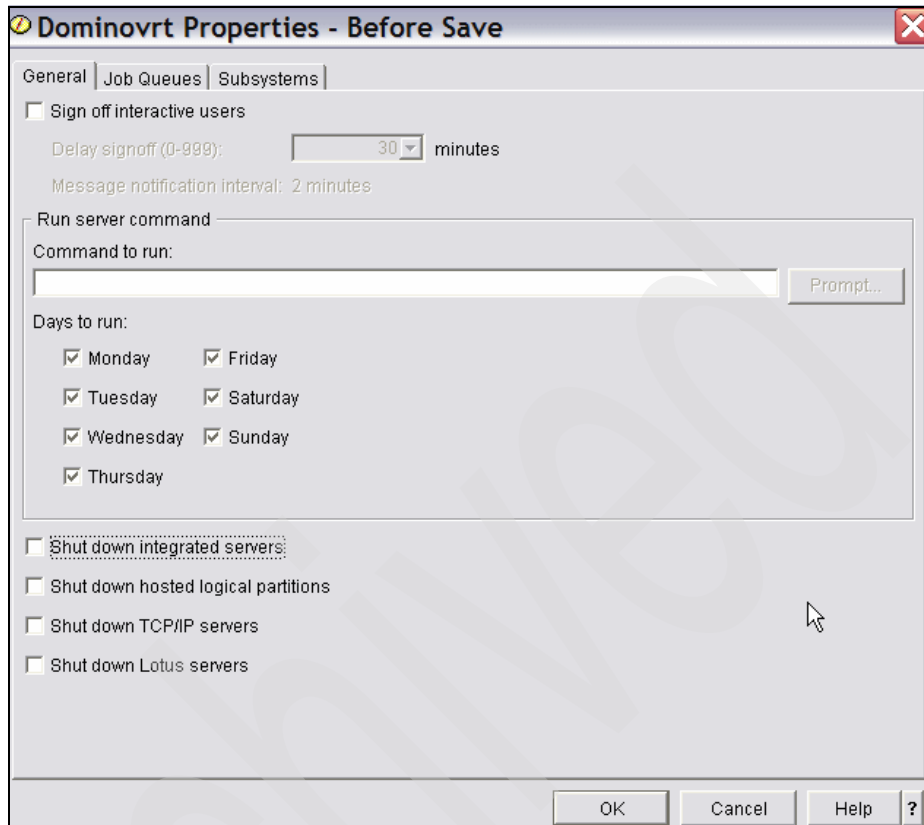

Figure 5-58 BRMS move policy change, Before Save - General tab
4. In the Before Save window shown in Figure 5-58 on page 244, click the **General** tab, and make sure that no servers are taken down. Also, allow all users to remain active. Click **OK**.